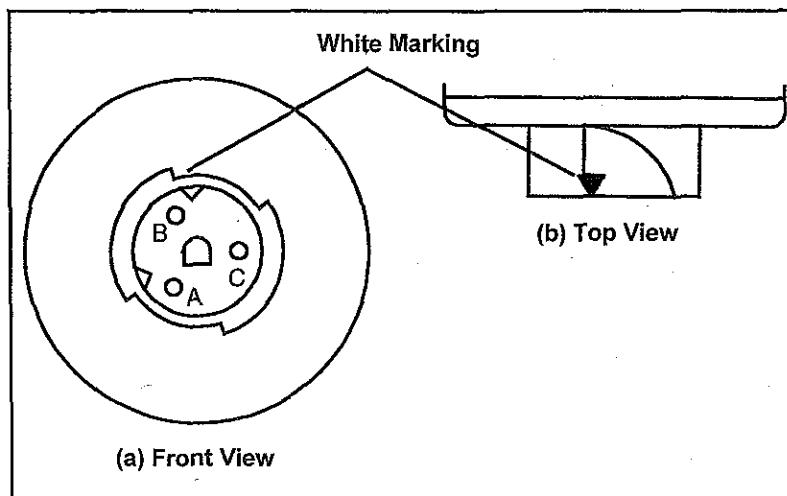

Figure 3-3: Syringe Warmer Receptacle
10. Figure 3-3(a) is a front view of the Injector receptacle. Pin A is Ground/Earth. Perform a continuity test between pin A and a good Ground/Earth on the Injector. If the test fails, replace the Syringe Warmer Harness and retest the unit; otherwise, proceed to the next step.
13. Disconnect the Syringe Warmer cable. Measure +12VDC across pin B (+) and pin C (-) in the Injector receptacle shown in Figure 3-3. If the test passes, power down the Injector and replace the Syringe Warmer (original replacement is defective); otherwise, proceed to the next step.